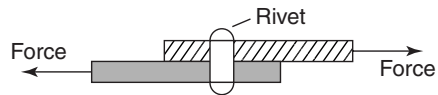

Figure 1.3
- (i) a rivet holding two plates together is in shear if a tensile force is applied between the plates — as shown in Figure 1.3